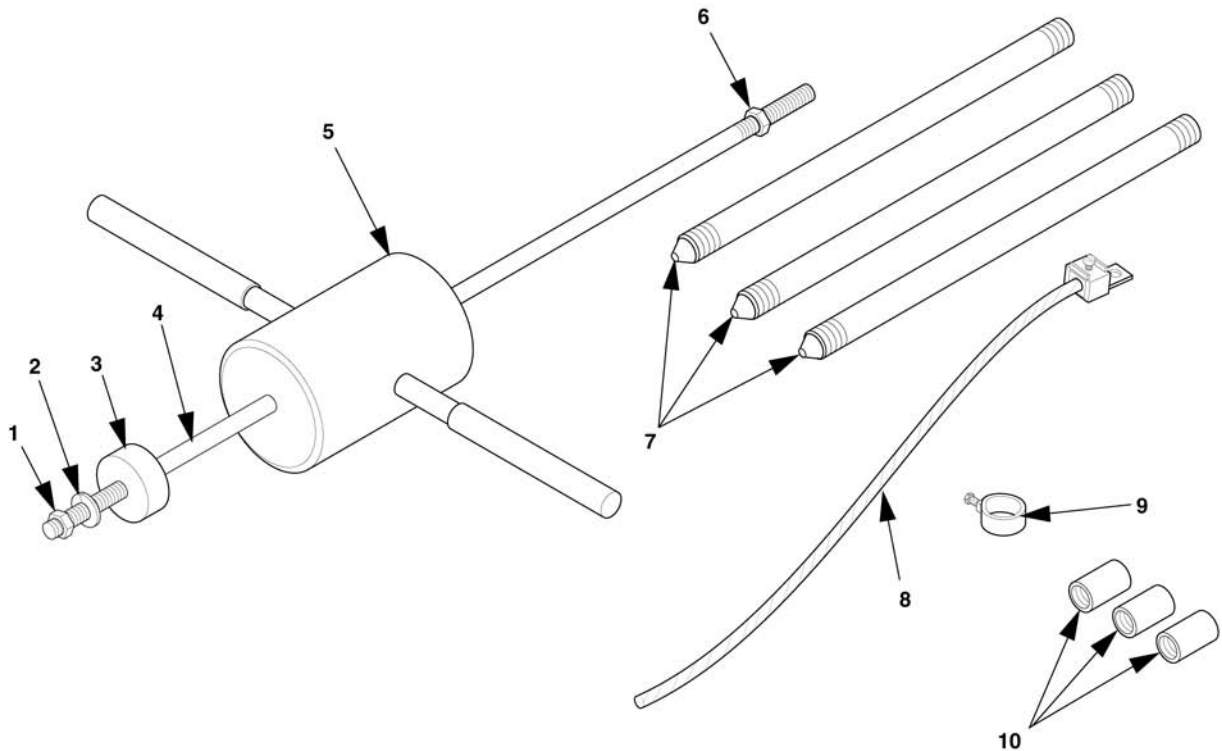

Figure 2-9. Ground Rod and Slide Hammer.
- a. Remove ground rod, grounding strap, and slide hammer (figure 2-9) from accessory box. Perform assembly steps (1) through (4).
- (1) Remove nut (6, figure 2-9) from end of rod (4) and retain.
- (2) Remove hammer (5) from rod (4) and thread nut (6) on end of rod to prevent loss.
- (3) Store hammer (5) and rod (4) with assembled parts in accessory box.